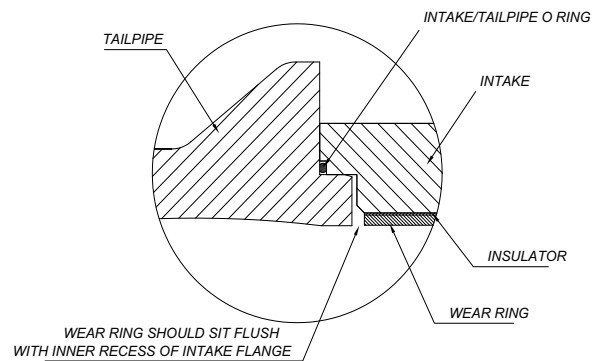
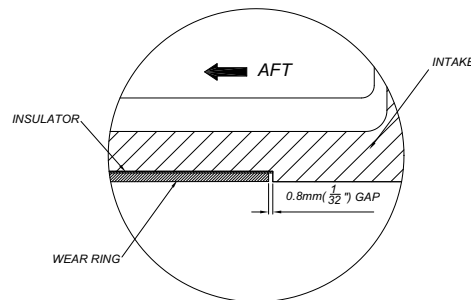

Figure 10: Forward Position of Wear Ring
Figure 11: Wear Ring Aft Position
6. Continue pushing the wear ring into the intake until the wear ring sits approximately **0.8 mm (1/32")** from the end of the recess in the intake. **Refer to Figure 11: "Wear Ring Aft Position".**
Note: The wear ring is in the correct position when it is located approximately 0.8 mm (1/32") from the end of the recess in the intake. Refer to Figure 11: "Wear Ring Aft Position" and the wear ring sits flush with the inner recess of the intake flange. Figure 10: "Forward Position of Wear Ring". This gap must be maintained to prevent electrical contact between the wear ring and the tailpipe / intake of the jet unit.